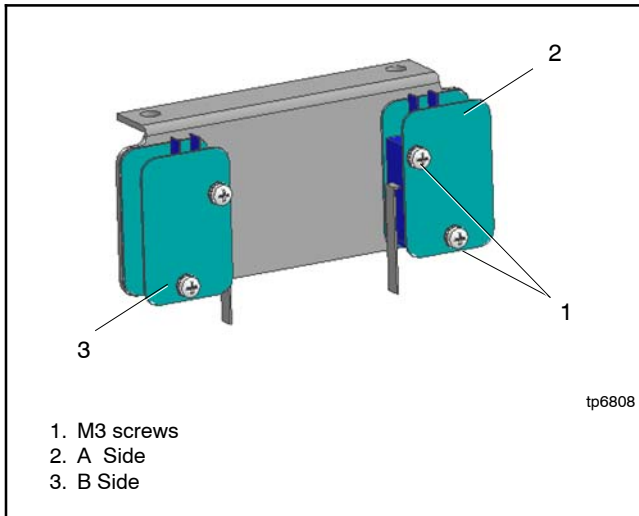
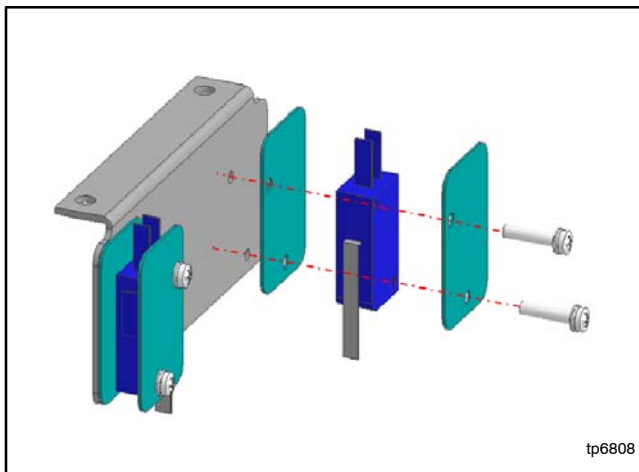

Figure 7-29 Microswitch Screws
Figure 7-30 Microswitch and Separators
3. Remove two M3 screws to remove the microswitch and separators. See Figure 7-29 and Figure 7-30.